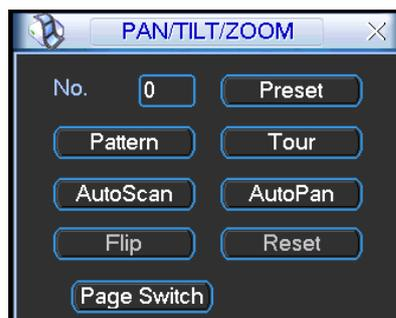
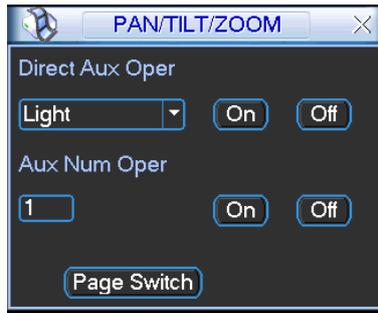

Figure 4-11
Figure 4-16
In Figure 4-7, click page switch button, the interface is shown as in Figure 4-11.
- The following setups are usually operated in the Figure 4-7, Figure 4-10 and Figure 4-11.
In Figure 4-11, please input preset number in the No. blank, and click preset button.
In Figure 4-11, click “Auto Scan” button, the system begins auto scan. Correspondingly, the auto scan button becomes Stop button. Click stop button to terminate scan operation.
In Figure 4-11, click page switch button, you can see an interface is shown as below. See Figure 4-16. Here you can set auxiliary function. The aux value has relationship with the Aux button of the decoder.
In Figure 4-16, click Page Switch button, you can go to Figure 4-17. (Please note only SD1 and SD2 protocol can go to the following interface.)